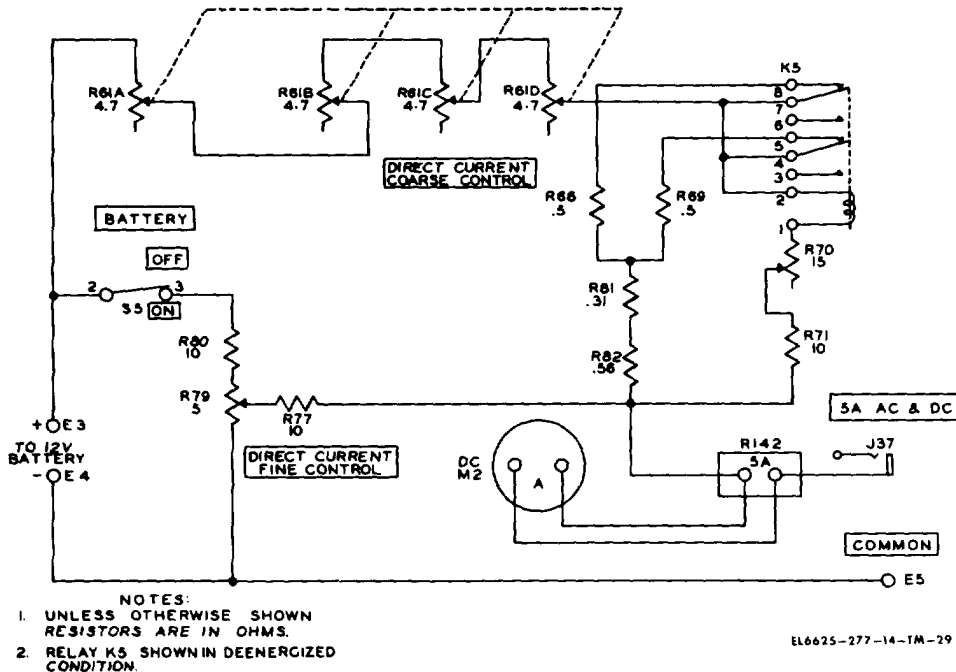

Figure 5-17. Five ampere dc test circuit, simplified schematic diagram.
e. *Five-Ampere Dc Test Circuit (fig. 5-17).* For the 5-ampere dc test circuit, there are two networks for regulating the supply of current to the meter under test. The DIRECT CURRENT COARSE CONTROL consists of resistors R61A, R61B, R61C, R61D, R68, R69, R71, RS1, R82, and variable rheostat R70; and the DIRECT CURRENT FINE CONTROL consists of resistors R77, R80, and variable rheostat R79. These two networks control the current supplied to the meter under test through jack J37. Meter shunt R142, meter M2, and binding post E5 (COMMON) complete the 5-ampere dc test circuit. Power is supplied by the 12-volt battery connected to binding posts E3 and E4.